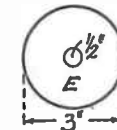

Fig. 3
Next cut the circular piece (E) as in Fig. 3 and nail it to the top of the base. The pivot rod is about 9 1/2ins. long and it may be of hardwood dowelling pointed at the top and with, perhaps, a round-head screw put in. The mill is so made that it revolves about this pivot, all being made clear from the section shown in Fig. 1.